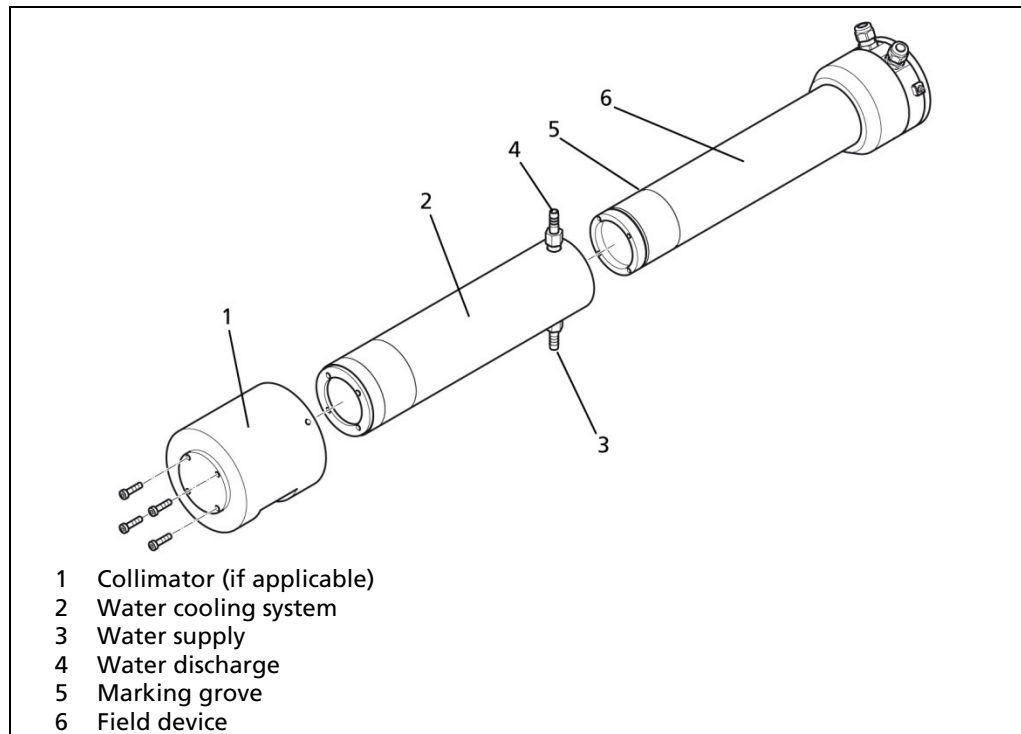

Fig. 9 Field device with water cooling system
1. Slide the water cooling system (Fig. 9, pos. 2) with the connection nozzles pointing forward towards the connection housing (Fig. 9, pos. 1).
If the field device has been installed in horizontal position, the bottom connection (Fig. 9, pos. 3) has to be used as water supply.
2. Slide the collimator over the water cooling system so that the radiation window is positioned at the source. In this process, align the collimator and the water cooling system to the circular opening of the field device. Make sure the position of the connection nozzles does not obstruct later installation of the water supply (refer to Fig. 9).